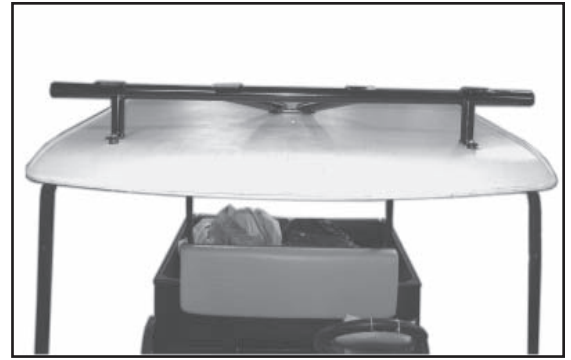

Figure 4 - Position Light Bar
3. Set the light bar (A) onto the spacers and loosely fasten with the ¼-20 X 2.5" Phillips pan head bolts and lock nuts (C & D) provided. See figure 4.